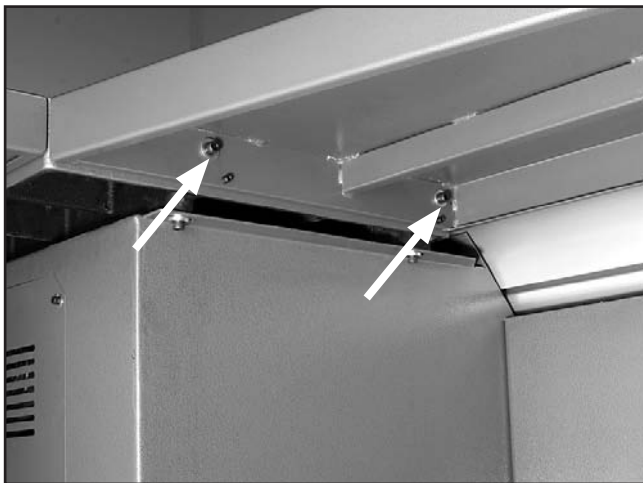

Figure 19. Small extension table attachment.
2. Attach the small extension table with two M8-1.25 x 30 cap screws, lock washers, and flat washers as shown in **Figure 19**.